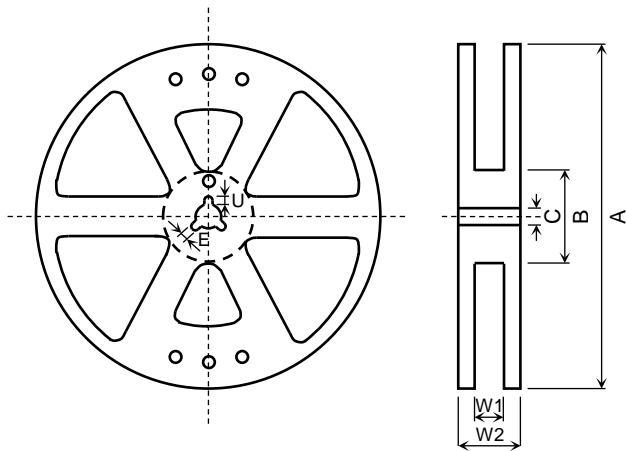

Figure 3 Reel Form
- (1) Material: Plastic (protection against electrostatics)
- (2) Dimensions: The reel dimensions are as shown in Figure 3 and Table 3.